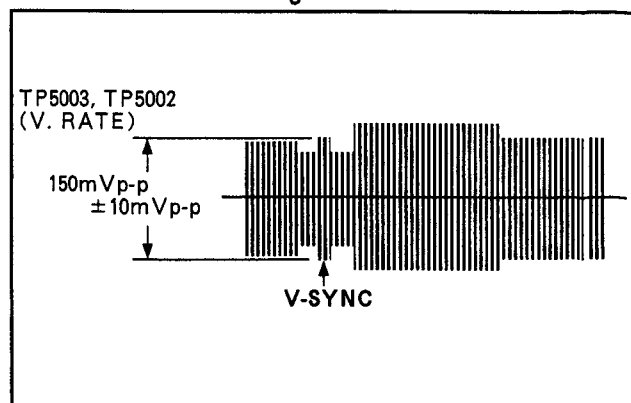

Figure E8
6. Next, adjust VR5001 for $150\text{mVp-p} \pm 10\text{mVp-p}$ as luminance signal us shown in Figure E8.